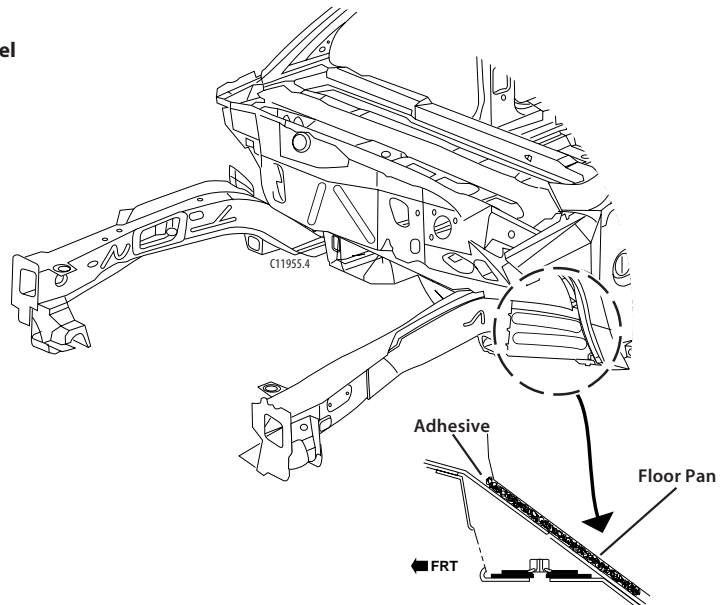

Figure 5-4:
8. Drill out the remaining factory welds on the rail. The lower portion of the wheelhouse at the rail must also be drilled out and removed (figure 5-4).
9. With a flat chisel, loosen the adhesive between the floor pan and lower rail by prying the rail away from the floor (figure 5-4). Care must be taken to avoid damaging the floor.